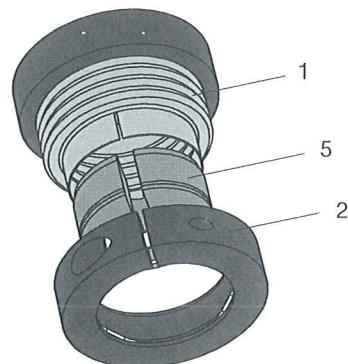
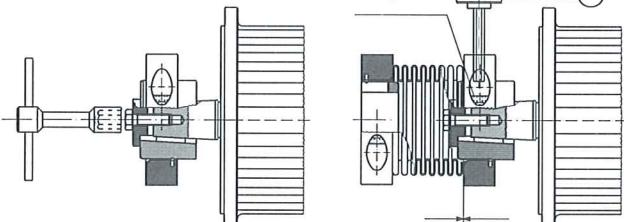
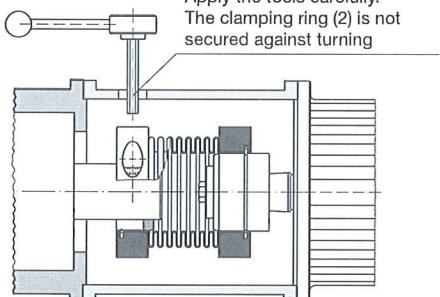

Fig. 5
Fig. 7
Fig. 8
- Avoid damage to the steel bellows (1) before and during installation.
- The clamping ring (2) with the holding spring (3) must be engaged in the reducing bushing (5) or reducing bushing with tapered bore (6).
- In order to transfer the defined torques in Table 1 (page 5) correctly, the slots in the steel bellows (1), clamping ring (2) and reducing bushing (5) must be aligned (see Fig. 5).
– see also Fig. 6 and Fig. 8
2. Push the entire coupling over the whole length of the reducing bushing (5) onto a shaft.
3. Make sure that the steel bellows (1) is pushed between the clamping ring (2) and the reducing bushing (5) up to its limit, and that the slots in the steel bellows (1), clamping ring (2) and reducing bushing (5) are aligned (see Fig. 5).
4. Tighten the cap screw (4). The screw tightening torques (see Technical Data) must be observed.
5. Push the second shaft over the entire length of the reducing bushing (5) into the coupling.
6. Make sure that the steel bellows (1) is pushed between the clamping ring (2) and the reducing bushing (5) up to its limit, and that the slots in the steel bellows (1), clamping ring (2) and reducing bushing (5) are aligned (see Fig. 5).
7. Tighten the cap screw (4). The screw tightening torques (see Technical Data, page 4) must be observed.
– see also Fig. 7 and Fig. 8
1. Remove the clamping ring (2) with the protruding reducing bushing with tapered bore (6) from the coupling.
3. Push the reducing bushing with tapered bore (6) onto the conical shaft.
5. Push the rest of the coupling with the open steel bellows side up to its limit between the clamping ring (2) and reducing bushing with tapered bore (6).
6. Tighten the cap screw (4). The screw tightening torque (see Technical Data, page 4) must be observed.
7. Push the second shaft over the entire length of the reducing bushing (5) into the coupling.
8. Make sure that the steel bellows (1) is pushed between the clamping ring (2) and the reducing bushing (5) up to its limit, and that the slots in the steel bellows (1), clamping ring (2) and reducing bushing (5) are aligned. (see Fig. 5).
9. Tighten the cap screws (4). The screw tightening torques (see Technical Data, page 4) must be observed.